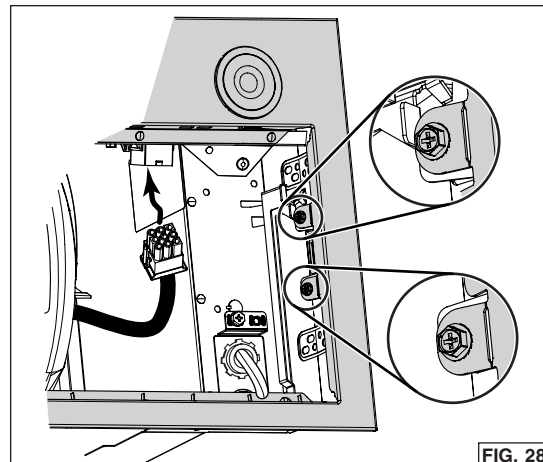

FIG. 28
- Reinstall and secure the faceplate to the unit using its 4 retaining screws (two per side, circled in FIG. 28). Plug the blower cable to its connector on faceplate (FIG. 28).